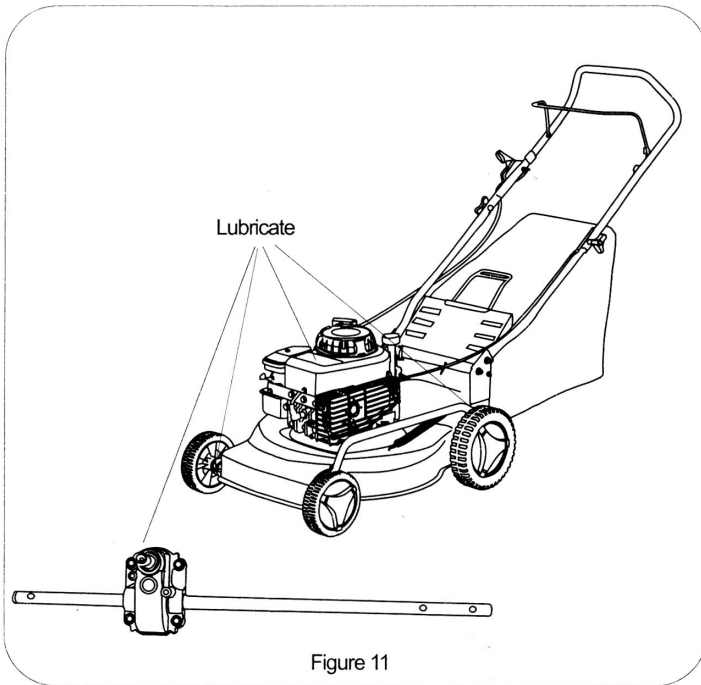

Figure 11
**Wheels:** Lubricate the wheels at least once a season with light oil (or engine oil). Also, if the wheels are removed for any reason, lubricate the surface of the axle bolt and the inner surface of the wheel with light oil. See Figure 11. Engine